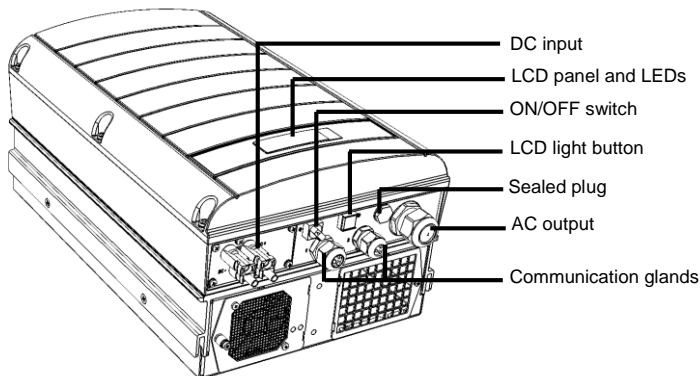

Figure 3: Inverter connectors (three phase example)
- 4** Open the AC cable gland and insert the cable through the gland (see Figure 3).